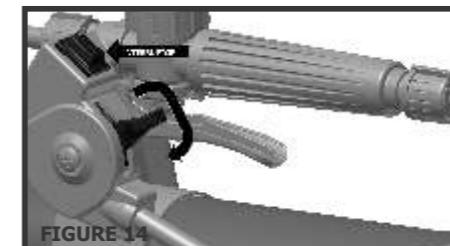

FIGURE 14
In emergency situations, the engine can be turned off without having to return the throttle lever to the starting position, by just pressing the ON/OFF switch (Figure 14) to the off position (O).
- Place the ignition switch in the RUN position (I) - figure 14;
To stop the engine, return the throttle to the initial position, and place the switch (figure 14) in position Off (O).